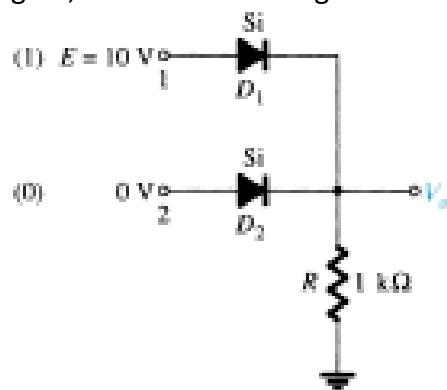

Figure 2
Diodes may be used to build an OR gate, as shown in the Fig 2.
The fig.2 shows one way to build a 2-input AND gate using diodes.
- Fig.2 shows the **series clipper with DC supply**. This configuration is called as **biased series clipper**.
- The **addition of a dc supply** to the network as shown in Fig. 2 can have a pronounced effect on the analysis of the series clipper configuration.
In Fig. 2 it is directly across the resistor R. In some cases it may be across a combination of series elements.
- In Fig. 2, for instance, any positive voltage of the supply will try to turn the diode "ON" by establishing a forward bias current through the diode.